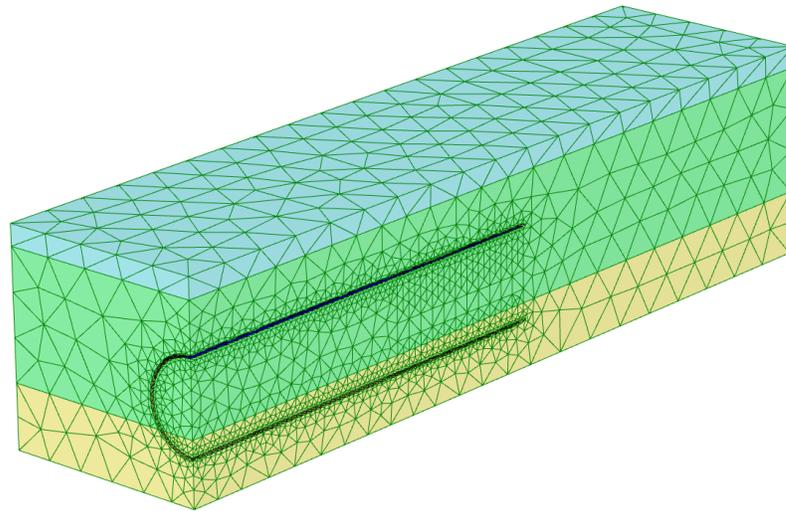

Figure 78: The generated mesh
2.  Click the **View mesh** button to inspect the generated mesh(Figure 78 (on page 104)).